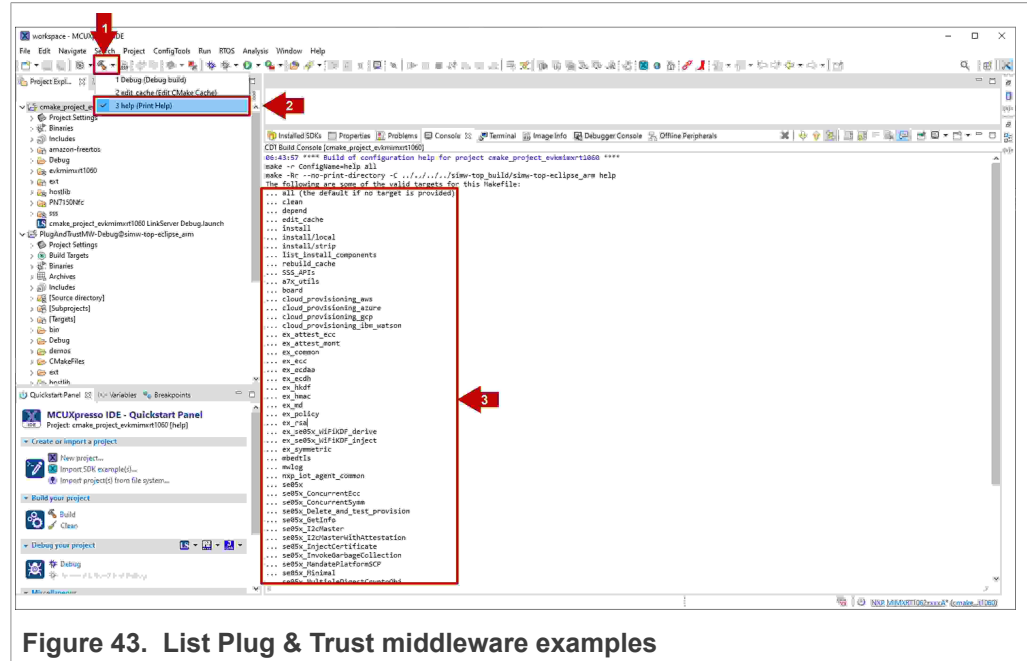

Figure 43. List Plug & Trust middleware examples
- The MCUXpresso console will display the list of Plug & Trust middleware examples which can be compiled with the currently chosen CMake settings (see Figure 43).